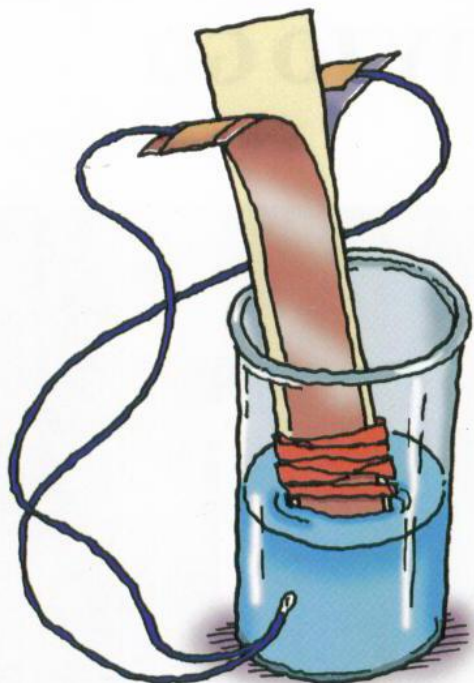

Figure 2.5 Place the zinc-copper assembly in the copper sulfate solution.
7. Place the zinc-copper assembly in the solution and wet the blotter paper (see Figure 2.5). Use the grain-of-wheat lightbulb to test whether this setup is a battery. Record your observations.